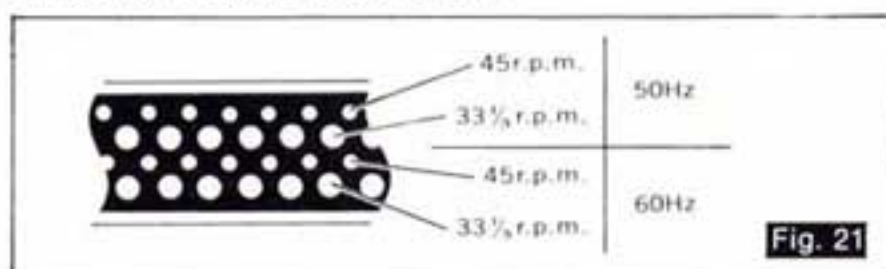

Fig. 21
③ Speed adjustment (with pitch control knobs) (See Figs. 21, 22 and 23)
Strobe dots are set on the tapered rim of the turntable platter according to the power frequency and the number of revolutions of the records. Make adjustment, referring to strobe dot indication. (See Fig. 21)